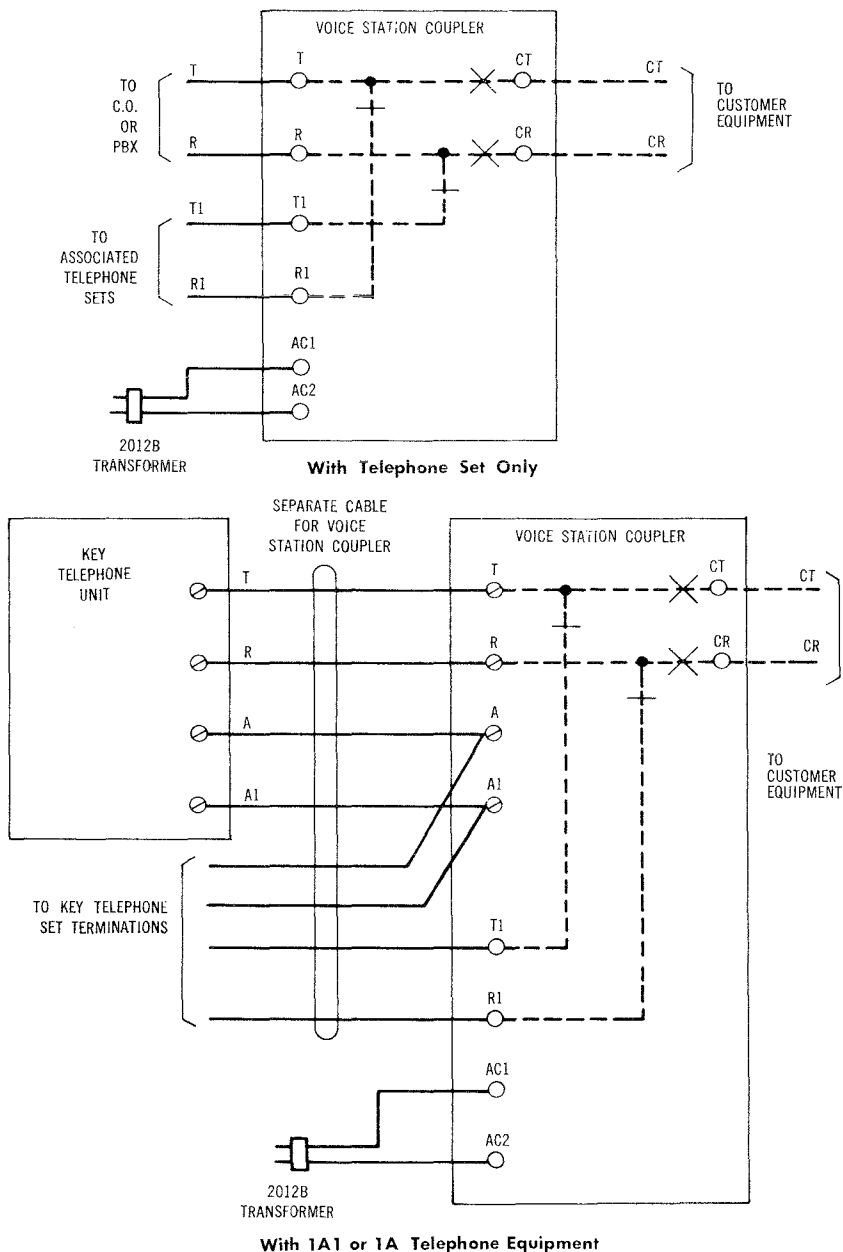

Fig. 5 — "Voice Station Coupler" Electrical Schematic
3.09 Connect the 0 and 1 button key type telephone sets and call directors with a voice station coupler as shown in Fig. 5.
- 3.12 Connect the 2012B transformer to AC1 and AC2 terminals as shown in Fig. 5.